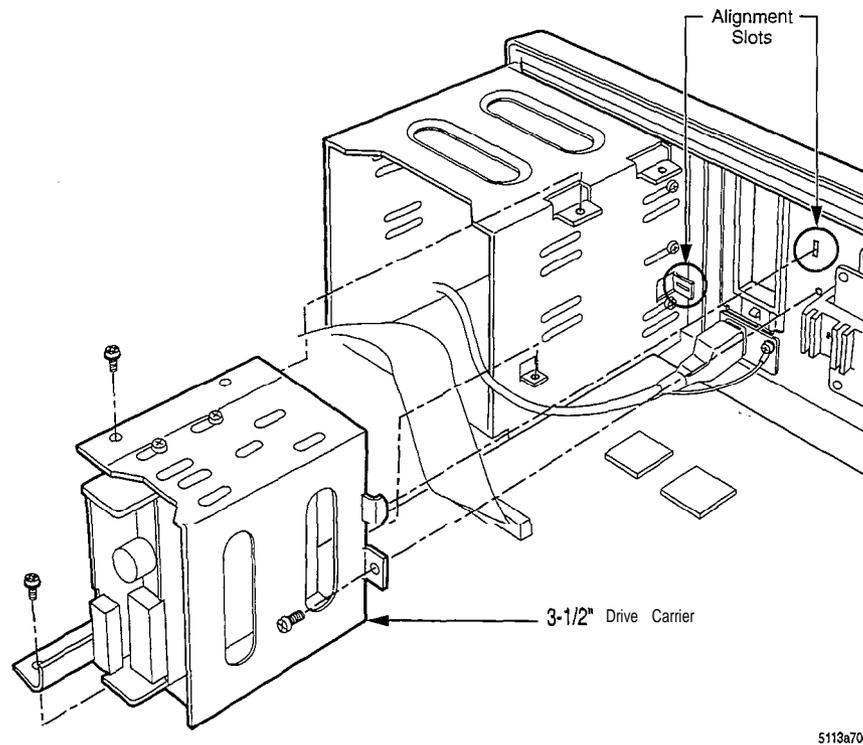

Figure 1 Remove the Hard Disk
8. Remove the four screws that secure the carrier to the chassis (6-32 hex head Phillips screws). See Figure 1 for details.
9. Slide the carrier toward the back of the system, freeing the left front tab from the slot on the side of the adjacent drive bay. Make sure all the cabling is clear, and lift the carrier up and out of the system. See Figure 1 for details.